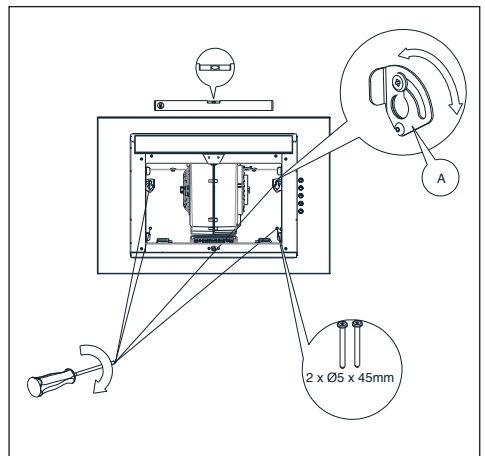

Fig.8 Range hood positioning
5. Place the level on the hood body. Rotating the element marked with A, adjust the hood level according to the level's indications, and then tighten two screws previously screwed partially and screw in two remaining screws (Fig.8).